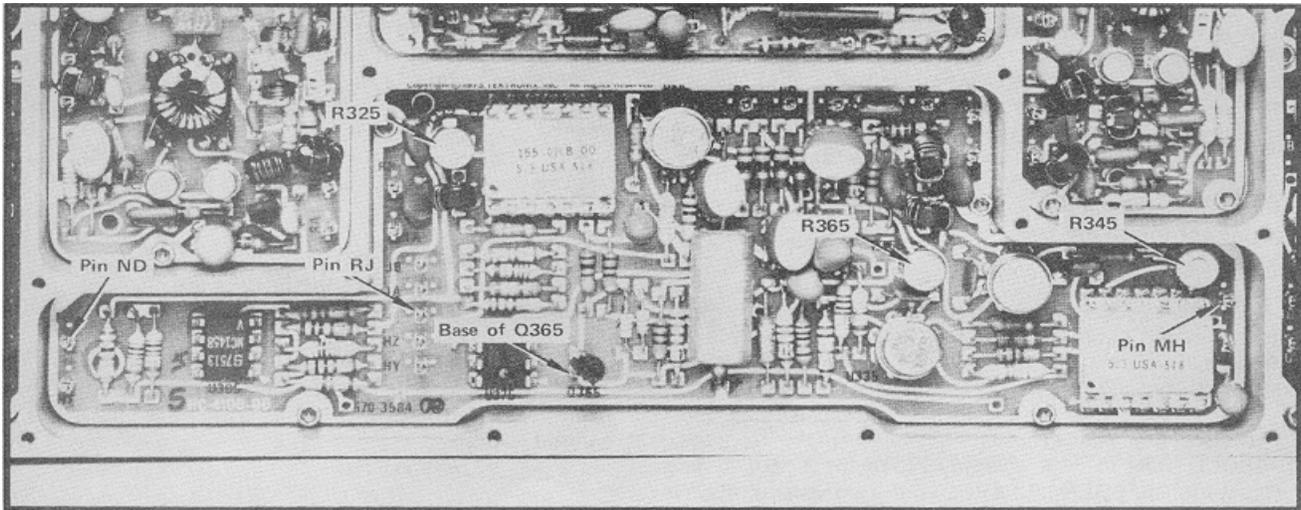
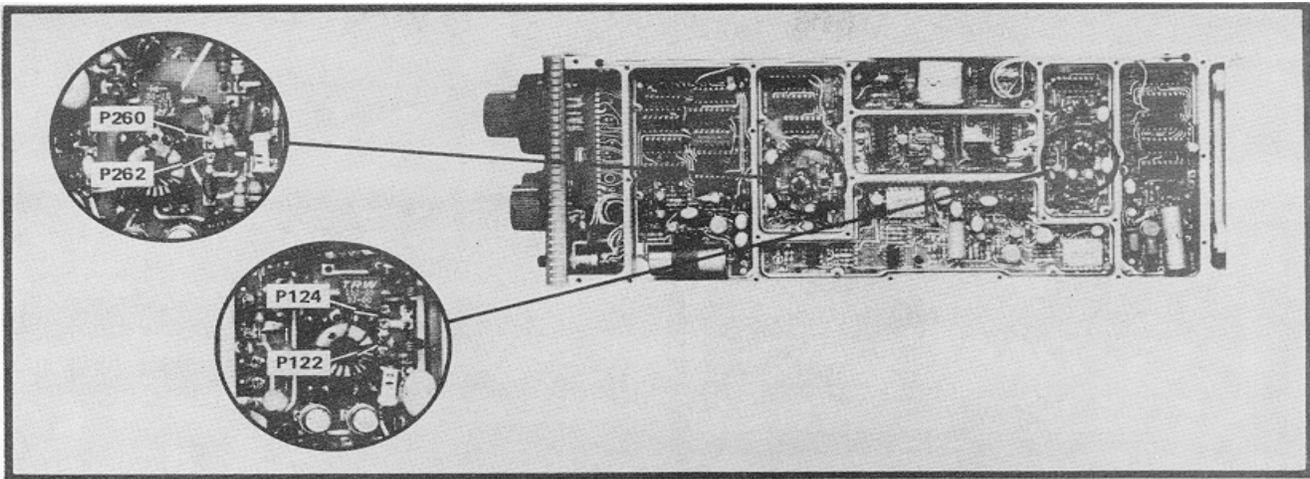

Fig. 4-6. Test point and adjustment locations for the A & B Oscillator Control.
Fig. 4-8. Location of A & B Oscillator frequency determining jumpers.
b. Connect a DVM (digital voltmeter) to the base of Q365 (A and B Oscillator Control 7) and adjust R365 (Fig. 4-6) for a reading of 11.00 volts.
1. Adjust R655 (Fig. 4-8) for 0 V at pin RJ (Fig. 4-6) then add or remove jumpers P122 and/or P124 (Tektronix Part No. 131-1493-00) so the DOT is close to, but not to the right of, center screen (high frequency side).
e. Set the DOT FREQUENCY to 00.00 kHz and connect the DVM to pin MH (A Memory) of the A and B Oscillator Control (Fig. 4-6). Note the voltage.
g. Adjust the A Memory Gain with R345 (Fig. 4-6) until the voltage difference between step e and f is 16.6 to 16.; volts.
h. Set the DOT FREQUENCY to 50.00 kHz then check the voltage at pin ND of the A and B Oscillator Control (Fig. 4-6). If the voltage is more than ± 1.5 V, remove or add jumpers P260 and P262 (Fig. 4-8) to decrease the voltage below ± 1.5 V.
i. Set the DOT FREQUENCY to 99.75 kHz. Measure the voltage at pin ND of the A and B Oscillator Control assembly (Fig. 4-6). Note this voltage.
k. Adjust the B Gain with R325 (Fig. 4-6) until the voltage difference at pin ND, between the two DOT FREQUENCY settings (steps i and j), is 18.0 volts.